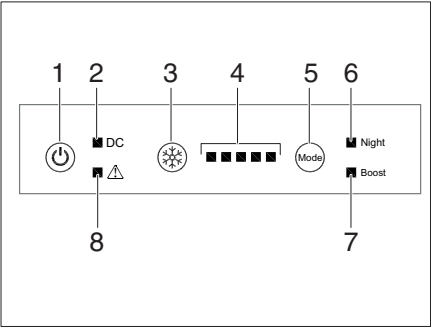

Fig. 121 Control panel with operating and display elements for the fridge
- ▶ Press the on/off switch for 1 second. All indicators light up and the buzzer sounds. After 10 seconds, all indicator lights go out except the DC indicator (Fig. 121,2).
- ▶ Press any button on the control panel (Fig. 121).
- ▶ Press the temperature setting button (Fig. 121,3).
A LED lights up on the temperature display (Fig. 121,4).